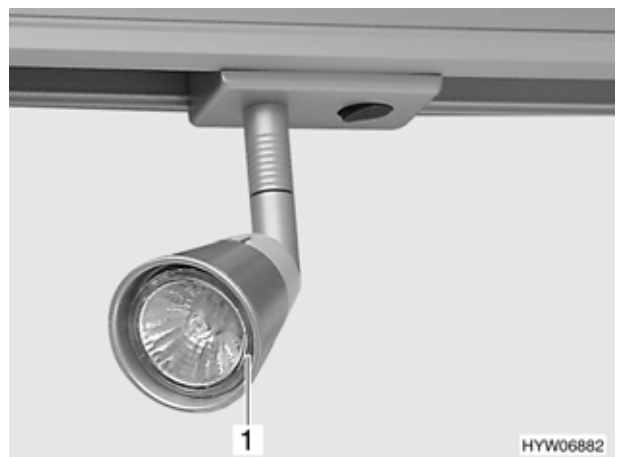

Fig. 163 Spotlight (variant 2)
- Grip the edge of the spotlight glass (Fig. 163,1) and pull forward.